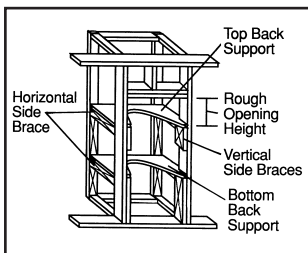

Figure 4
- Bottom and top backs. (figure 4)